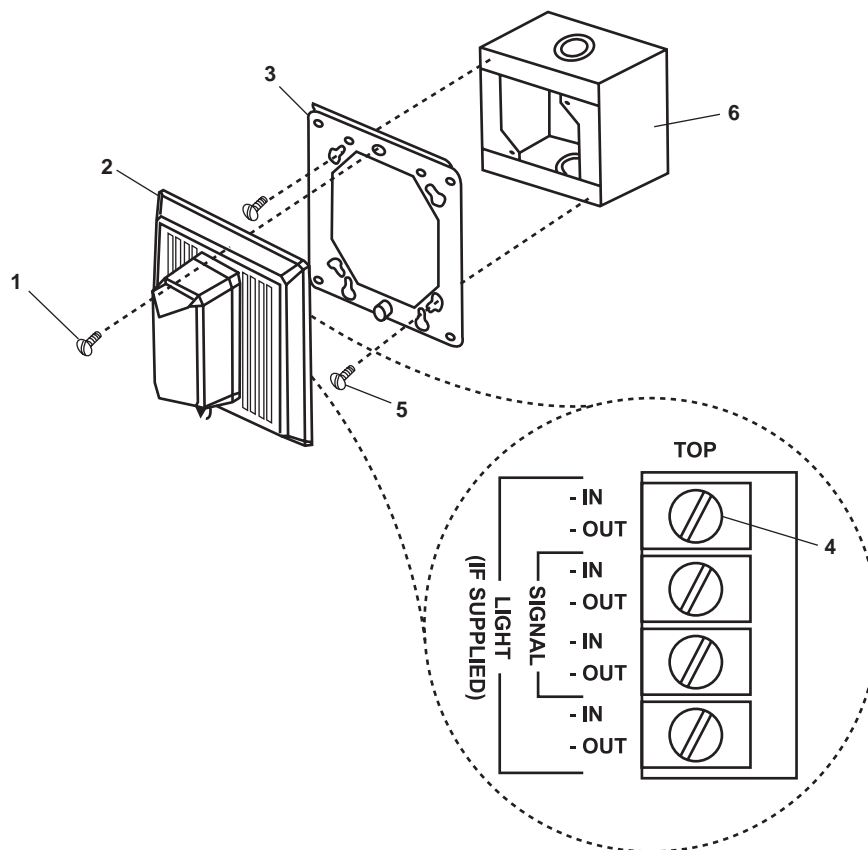

Figure 9. Horn/Strobe Replacement
1. Remove the two screws (figure 9, item 1) that attach the horn/strobe (figure 9, item 2) to the mounting plate (figure 9, item 3).
2. Using a multimeter, check for voltage at the terminal board (figure 9, item 4). If voltage is present, ensure that the proper circuit breakers are set to OFF, locked out, and tagged out (FM 55-502). If no voltage is present, continue with this procedure.
3. Label and disconnect the wiring from the terminal board (figure 9, item 4).
4. Remove the two screws (figure 9, item 5) that secure the mounting plate (figure 9, item 3) to the junction box (figure 9, item 6), and remove the mounting plate.
1. Install the mounting plate (figure 9, item 3) to the junction box (figure 9, item 6) with the two screws (figure 9, item 5).
2. Connect the wiring to the terminal board (figure 9, item 4) using the labels from step 3 of Removal as a guide. Remove the labels.
3. Position the horn/strobe (figure 9, item 2) on the mounting plate (figure 9, item 3) and secure it with the two screws (figure 9, item 1).